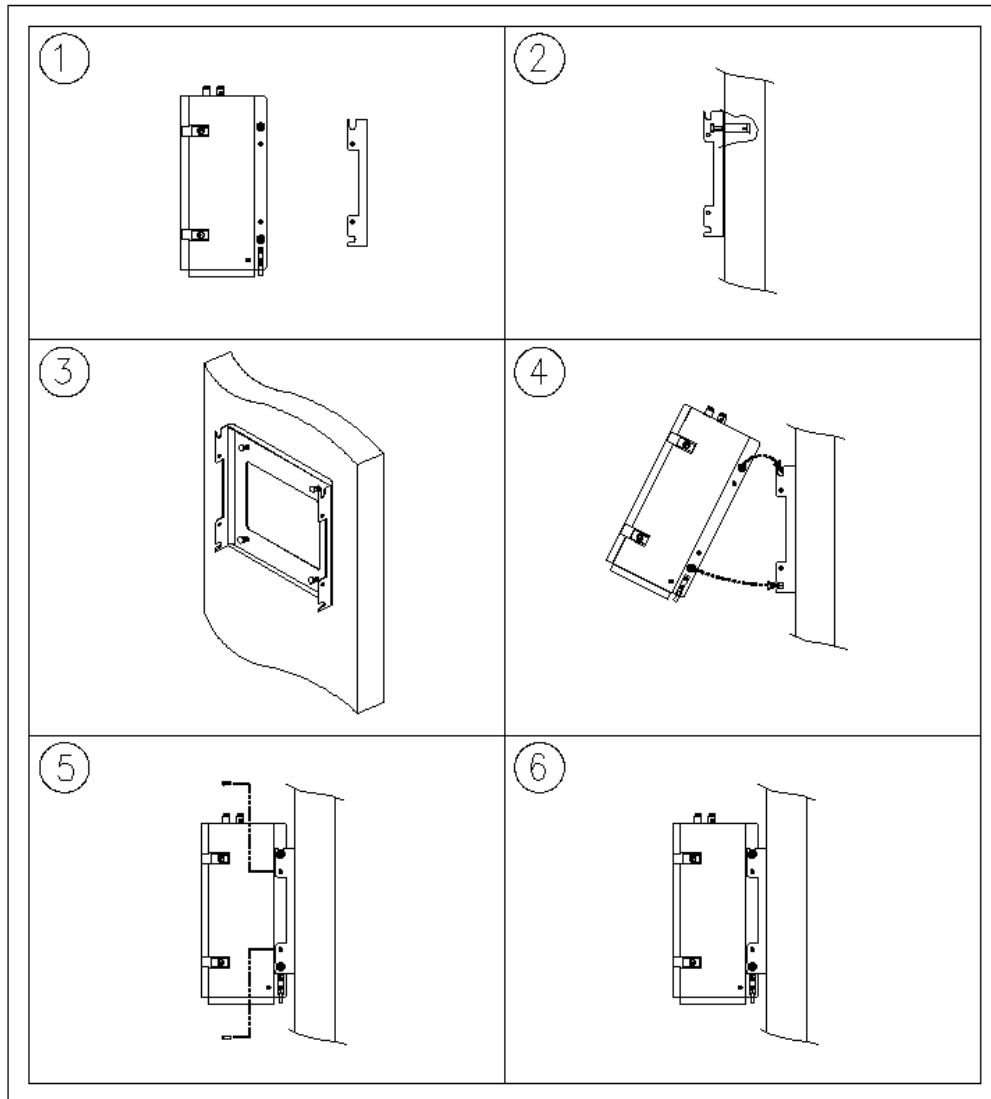

Figure 4: AXM700 Mounting Instructions
The Battery Port is to be used in conjunction with the ADRF-BBU (Optional Battery Backup Unit). The ADRF-BBU offers up to 8 hours of battery backup power to avoid any possible downtime due to power failure. If a backup battery is utilized, please connect the battery to the unit via the external battery port as shown in Figure 4.
4. Tilt the repeater as shown in Figure 4 above and place top mounting loop over the upper hook of the mounting bracket